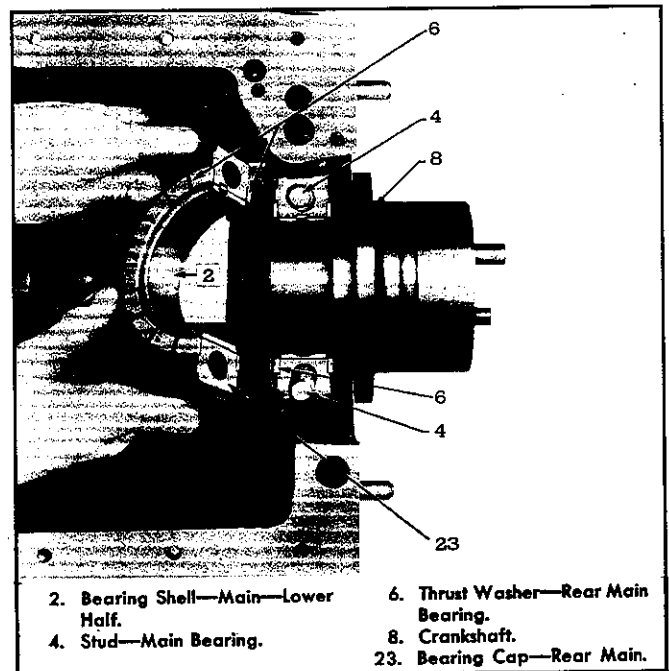

Fig. 7—Rear Main Bearing Thrust Washer and Mounting.
**Rear Main Bearing Thrust Washers**—As will be seen from Fig. 7, the crankshaft thrust washers located at the rear main bearing consist of two pieces on each side of the bearing. The lower portion is doweled to the bearing cap in two places at each side of the cap. If these washers have become scored, or otherwise damaged, they should be replaced. Washers for replacement are available in standard and .005" oversize in thickness.